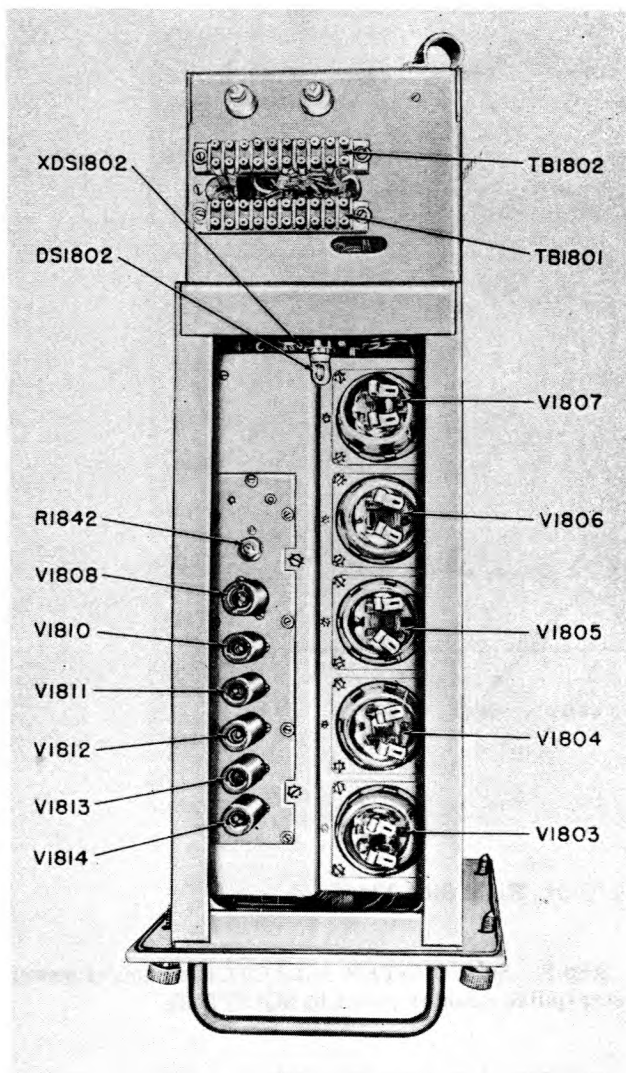

Figure 6-2. Medium Voltage Power Supply
Step 2. If reading is not correct, adjust potentiometer R1842 (figure 6-2) to obtain a reading of exactly +1000 volts dc.